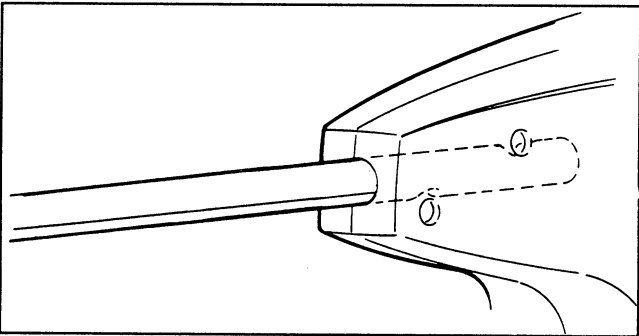

Figure 2
2. Slide the tube into the battery housing. Make sure the cutter shield is in the proper operating position. Align screw holes in housing with grooves in tube (Fig. 2).